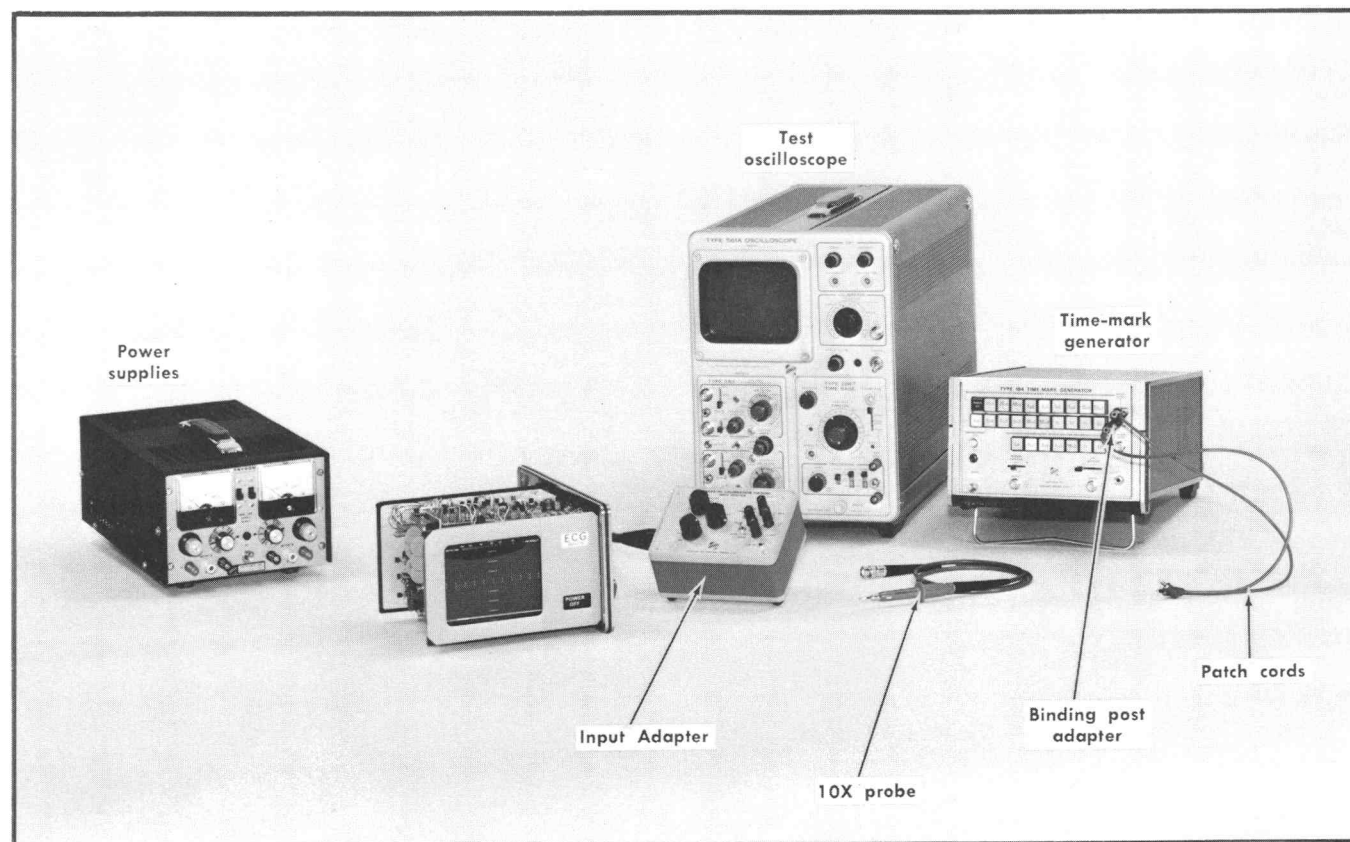

Fig. 6-17. Equipment required for steps 23 through 28.
a. Test equipment setup is shown in Fig. 6-17.